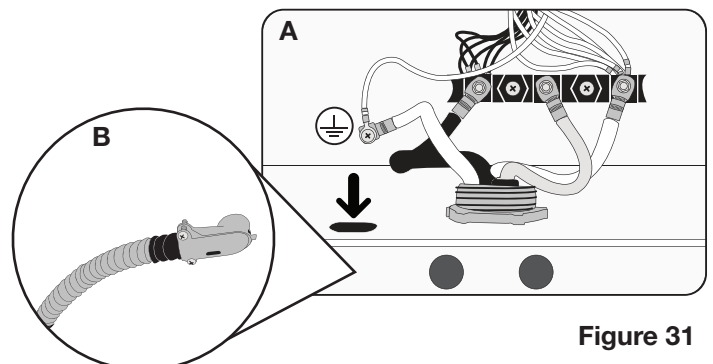

Figure 31
- 2** Open push out hole. Disconnect cables and insert through hole. (See Figure 31 A)
- 3** Connect cable with conduit and connect tube. Screw tightly on each side of part. (See Figure 31 B)